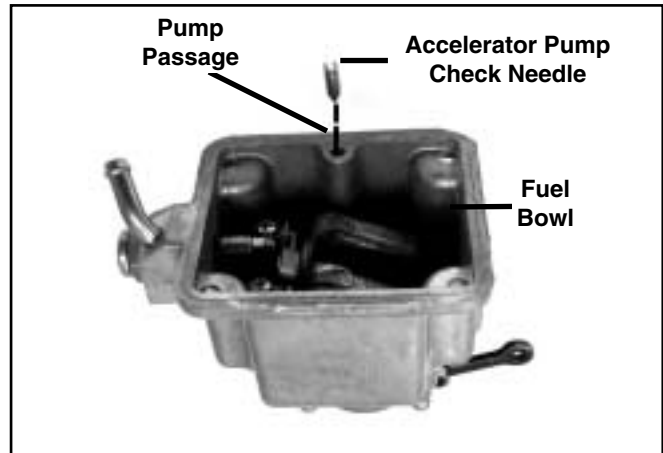

Figure 21. Float Bowl
- See Figure 21. Make sure to reinstall the pump check needle into the pump passage of the fuel bowl before the bowl is installed. The pointed end of the needle goes in the passage first. Reinstall the fuel bowl.